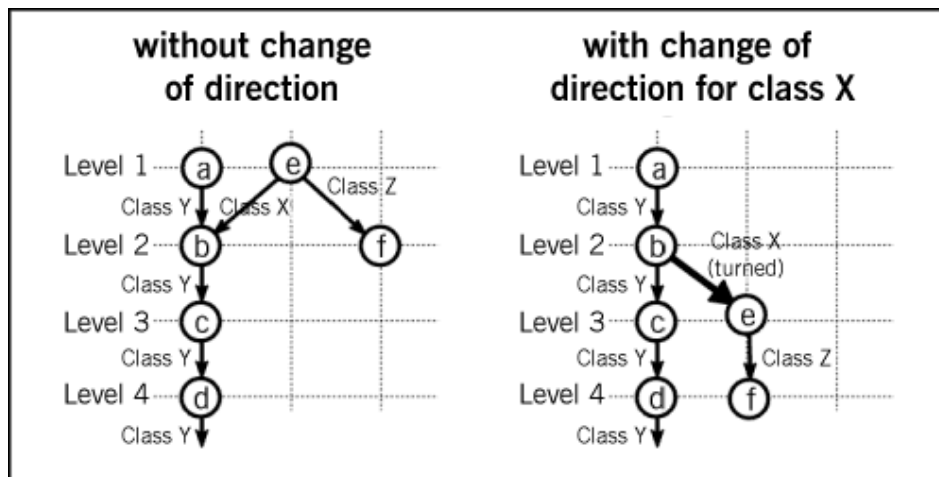

Figure 143: Schematic representation - Change direction
- Change direction:** By activating this parameter setting the direction of an instance of this relation class is turned around internally (see fig. 143). If two objects A and B, which are linked through the relation class X have the order "B followed by A" and the order "A followed by B" is actually desired, then direction change should be activated for class X.